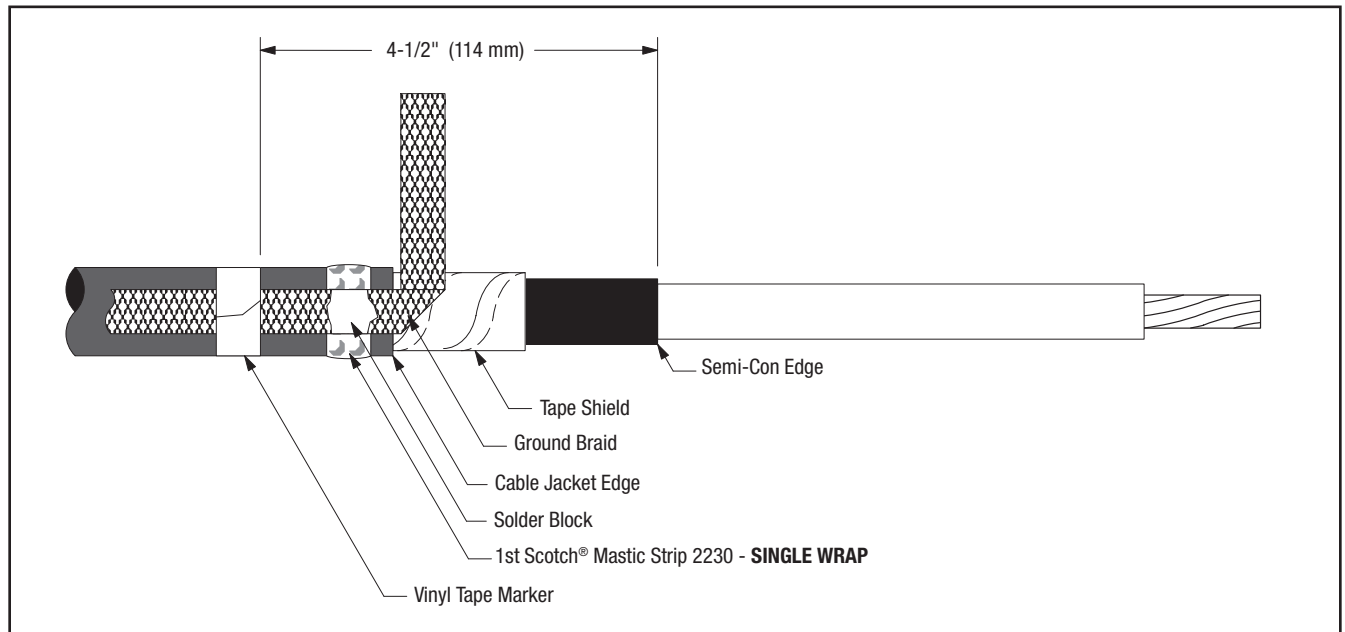

Figure 3
- 3.2 Position pre-formed ground braid with short tail over tape shield directly adjacent to cable jacket cut edge. PLEASE NOTE: The ground braid needs to make full contact with the metallic tape shield. Position long tail of ground braid, extending over cable jacket with solder block over mastic strip (Figure 3). Secure ground braid to cable jacket **4-1/2" (114 mm)** from cable semi-con edge using vinyl tape (see NOTE and Figure 3).